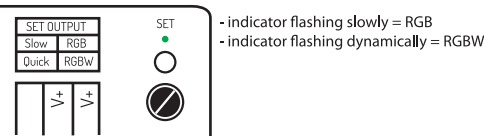

Fig. 4
2. Use the SET button (Fig. 4) on the controller to select a mode that is compatible with the LED strip (either RGB or RGBW).